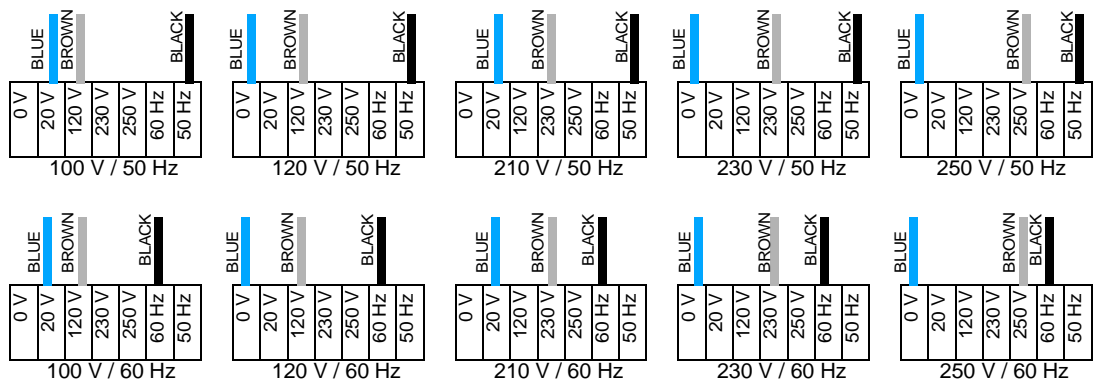

Figure 12: Voltage and frequency settings
3. Locate the 7-terminal connection block inside the base. Move the blue wire to the 0 or 20 V terminal, the brown wire to the 120, 230, or 250 V terminal; and the black wire to the 50 or 60 Hz terminal as shown for each setting in Figure 12.